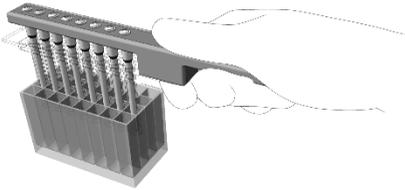

Figure 18. Collecting magnetic beads from **column 2**.
12. Using the IndiMag Handheld with the rod cover, slowly mix 10 times up and down to collect the magnetic beads from **column 2** (Figure 18). Wait until all the magnetic beads have attached to the rod cover.